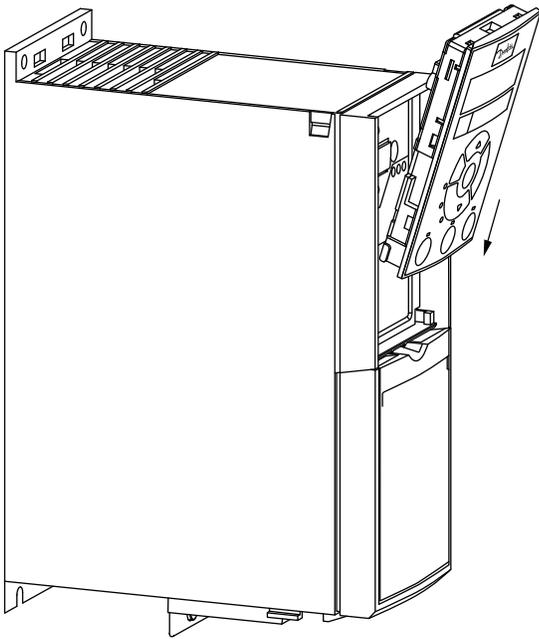

Fig. 70 — Align Bottom of VFD Keypad with Opening in VFD Front Panel
1. Place the bottom of the VFD keypad into the variable frequency drive as shown in Fig. 70.